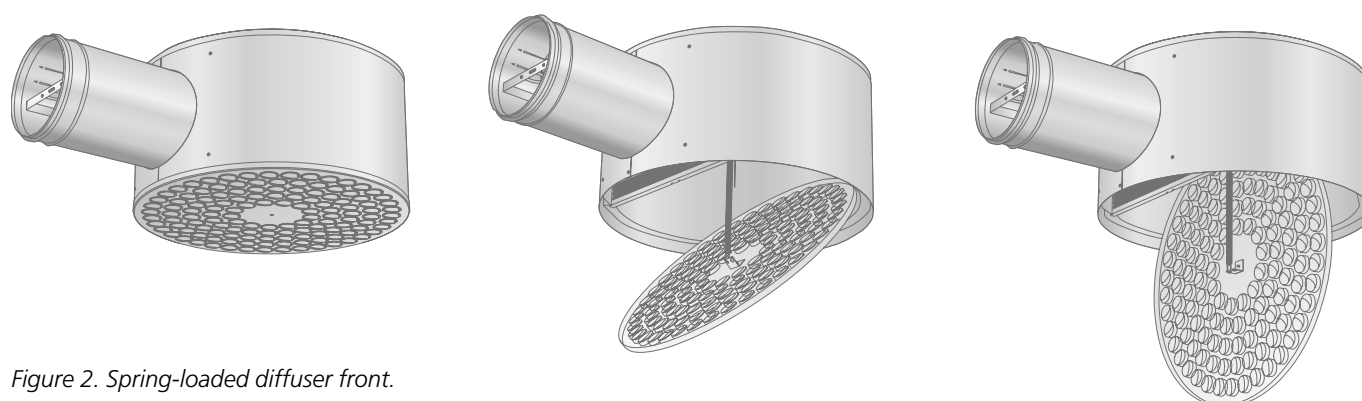

Figure 2. Spring-loaded diffuser front.
- The duct system can be accessed and lightly pulling the spring-loaded diffuser face downwards and then tilting, see figure 2.